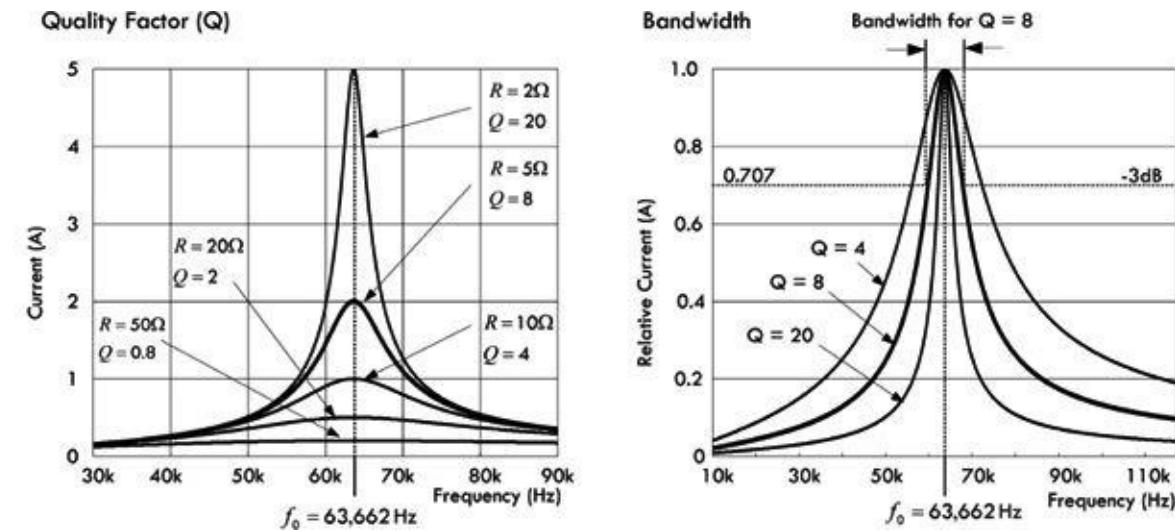

FIGURE 2.179
As mentioned earlier, the ratio of reactance or stored energy to resistance or consumed energy is by definition the quality factor Q . (Q is also referred to as the figure of merit, or multiplying factor.) As it turns out, within a series RLC circuit (where R is internal resistance of the components), the internal resistive losses within the inductor dominate energy consumption at high frequencies. This means the inductor Q largely determines the resonant circuit Q . Since the value of Q is independent of any external load to which the circuit might transfer power, we modify the resonant circuit Q , by calling it the unloaded Q or Q_U of the circuit. See Fig. 2.179.
response curves about resonance, as shown in the graph in Fig. 2.179. With resistances of 10, 20, and 50 Ω , the unloaded Q decreases to 4, 2, and 0.8, respectively. Conversely, if the resistance is made smaller, the unloaded Q increases, giving rise to a sharp current response curve about resonance. For example, when the resistance is lowered to 2 Ω , the unloaded Q becomes 20.
An alternative way of expressing the sharpness of a series-resonant circuit is using what is called bandwidth. Basically, what we do is take the quality factor graph in Fig. 2.179 and convert it to the bandwidth graph in Fig. 2.179. This involves changing the current axis to a relative current axis and moving the family of curves for varying Q values up so that all have the same peak current. By assuming that the peak current of each curve is the same, the rate of change of current for various values of Q and the associated ratios of reactance to resistance are more easily compared. From the curves, you can see that lower Q circuits pass frequencies over a greater bandwidth of frequencies than circuits with a higher Q . For the purpose of comparing tuned circuits, bandwidth is often defined as the frequency spread between the two frequencies at which the current amplitude decreases to 0.707 or $1/\sqrt{2}$ times the maximum value. Since the power consumed by the resistance R is proportional to the square of the current, the power at these points is half the maximum power at resonance, assuming that R is constant for the calculations. The half-power, or -3 -dB, points are marked on the drawing.
For Q values of 10 or greater, the curves shown in Fig. 2.179 are approximately symmetrical. On this assumption, bandwidth (BW) can be easily calculated: